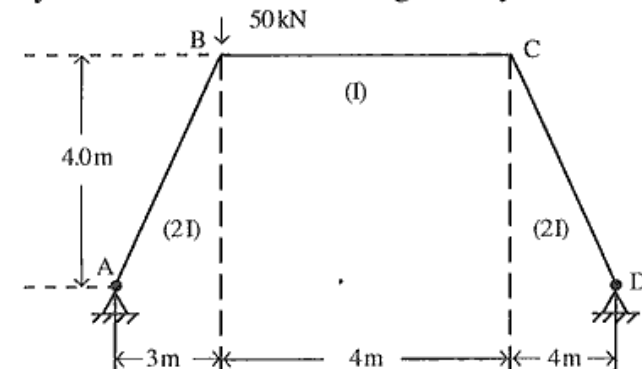

Figure 2
2. Analyse the frame as shown in figure 2 by the force method.